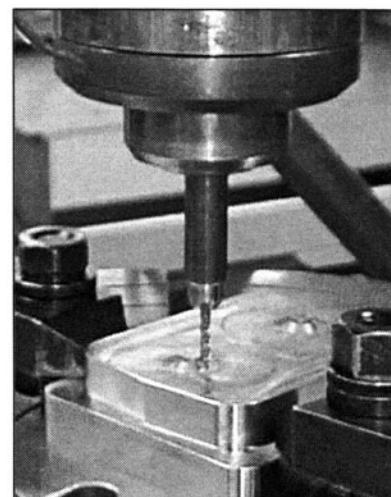

FIGURE 13-1
5. Make yourself a small cutter extension. (See Fig. 13-1)